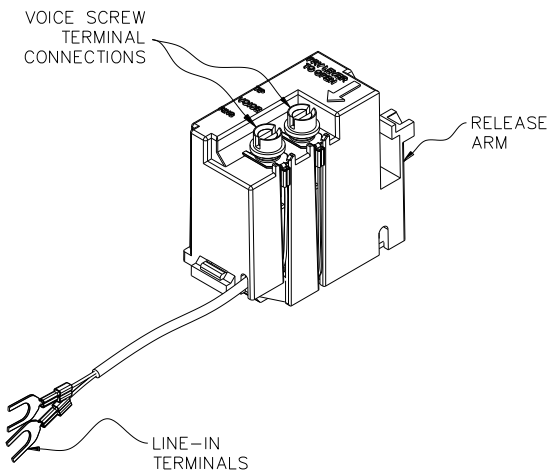

Figure 1
1. The TII 97 ADSL POTS Splitter Module (Figure 1) is designed for use at the subscriber premises in a TII 3600/3700 Network Interface Device (NID) and a CAC® 7600 NID (using a TII 9A Adapter). This module houses electronics known as a "POTS Splitter". The POTS Splitter allows both voice and data signals to travel over the telephone line. This device splits the combined signal to provide separate outputs for both phone and data. The ADSL POTS Splitter Module must be used along with a Standard POTS Customer Bridge Module (CBM) provided in the Outdoor Network Interface Device. The TII 97 ADSL POTS Splitter Module and the Standard POTS CBM's are interconnected to provide the subscriber output screw terminals for wiring both voice and data.